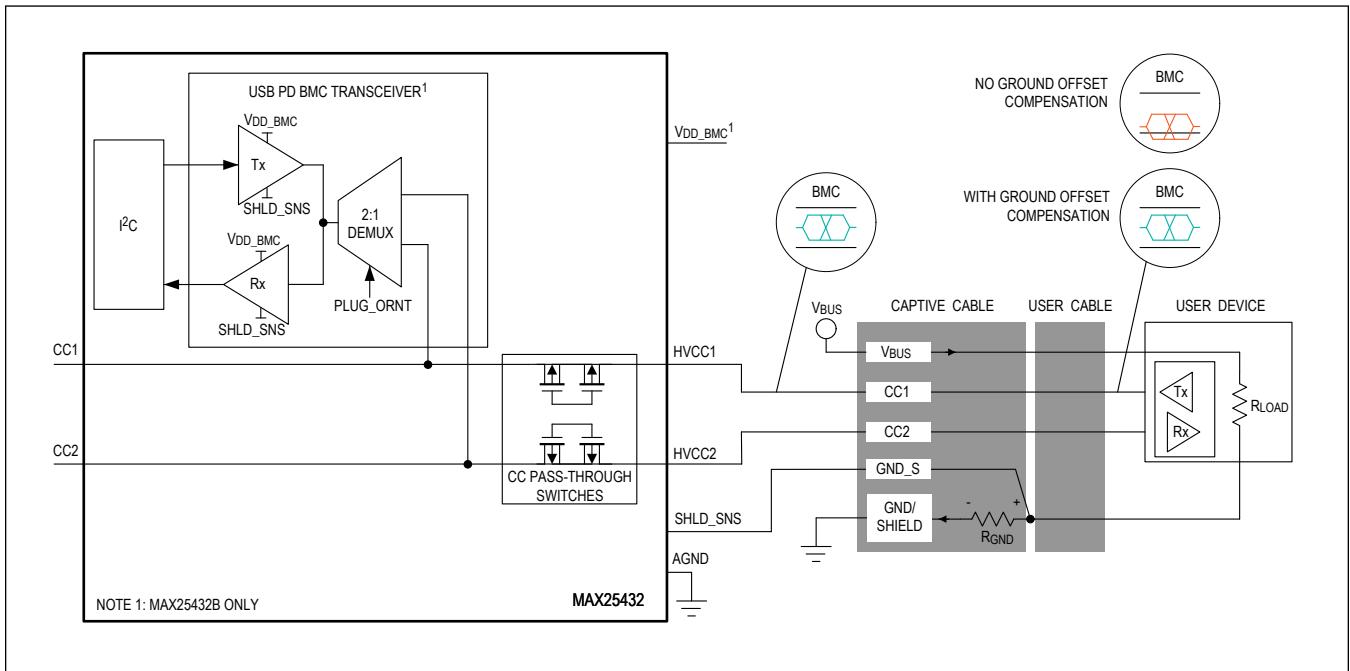

Figure 6. USB PD PHY Ground Offset Compensation
**Note:** The MAX25432B meets the BMC eye diagram specifications as defined in the USB Power Delivery Specification. The MAX25432B's BMC driver is referenced to the `SHLD_SNS` pin and therefore BMC communication is not affected by the IR drop caused by the external shield short-to-battery FET, if used. A Type-C captive cable with dedicated ground sense allows compensation for ground offset during charging as pictured in Figure 6.